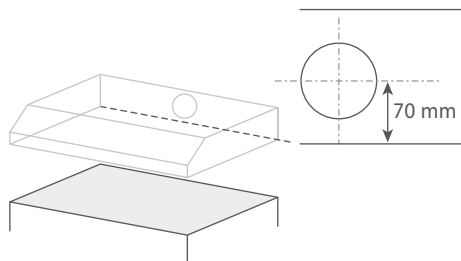

Fig.4 Measuring the cutout for air outlet diameter
- 4 Determine the position of the 133 mm diameter cutout required for rear external ducting out through the wall. From the point where the horizontal and vertical lines drawn earlier intersect, use a spirit level and pencil to mark the centre point of the cutout hole required 70 mm above the first horizontal as shown in fig.4.